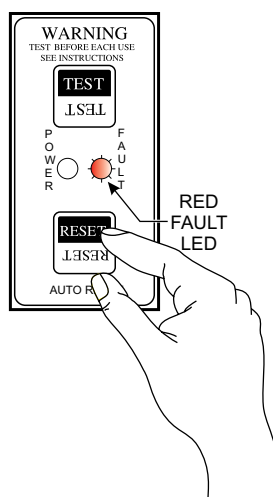

Figure 23. Red Fault Status LED (Flashing)
- If the main breaker is not turned on within 5 seconds the **RED** fault led on the GFCI sensing module will begin flashing (Figure 23). If this occurs, press the **reset button** on the GFCI sensing module.